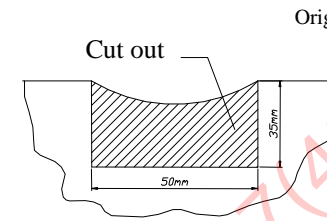

Fig. 3
7. Reinstall untwisted fenders and the bumper after cut his fragment as shown figure 3.